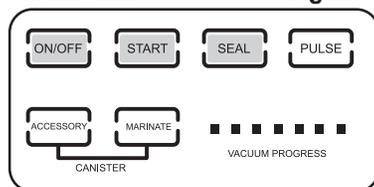

Figure 7
3. Press both of the **Lid Release Buttons** (Figure 7) on each side of the **Vacuum Sealer** to release the lid lock, then lift the **Vacuum Lid** to open.
9. **DO NOT** try to open the **Vacuum Lid** before the vacuum has released or damage may occur. Press both of the **Lid Release Buttons** (Figure 7) on each side of the **Vacuum Sealer** to release the lid lock, then lift the **Vacuum Lid** to open.